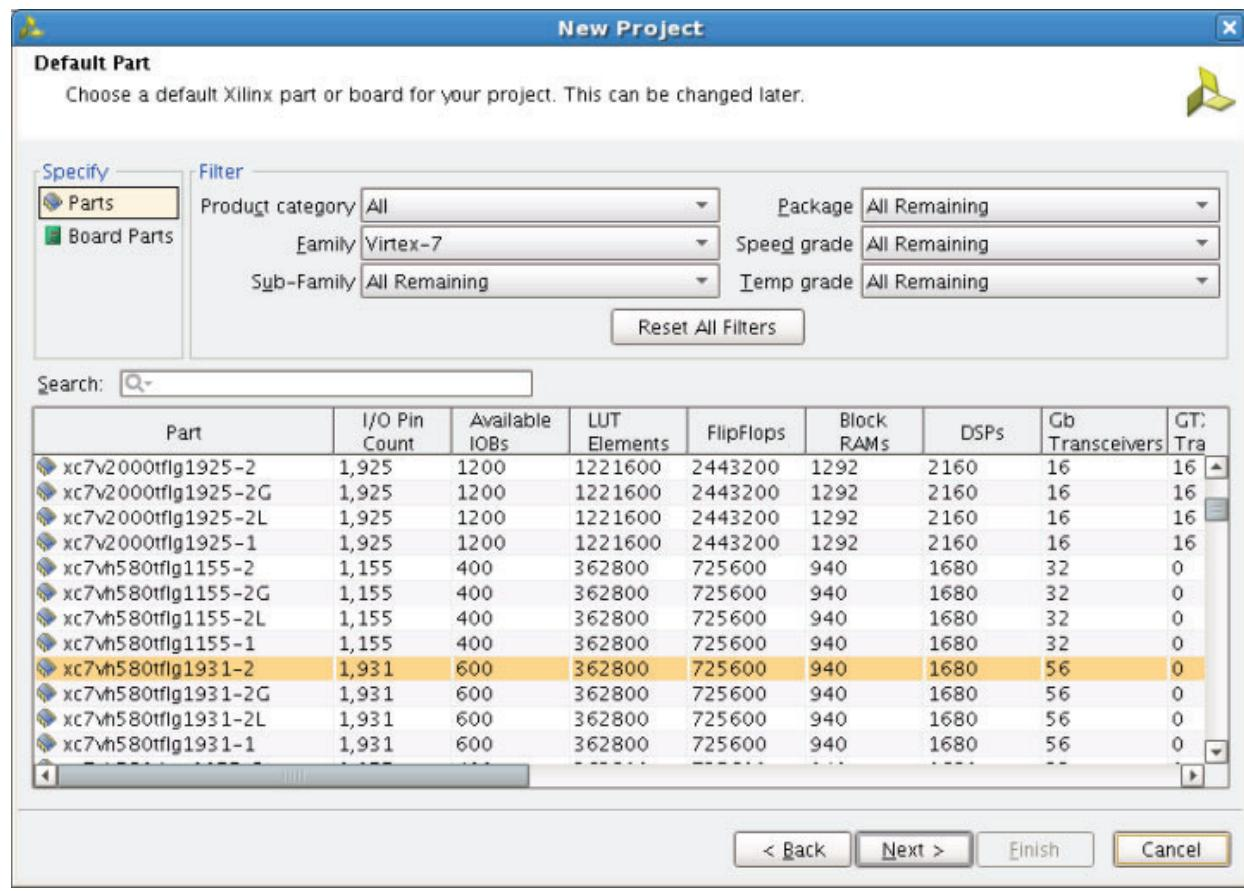

Figure 4-3: Target Architecture Setting
4. Select an appropriate package from the Package list. This example uses the XC7V1500T device (see Figure 4-3 or Figure 4-4). For an example design using GTZ transceivers, select the XC7VH580T device.